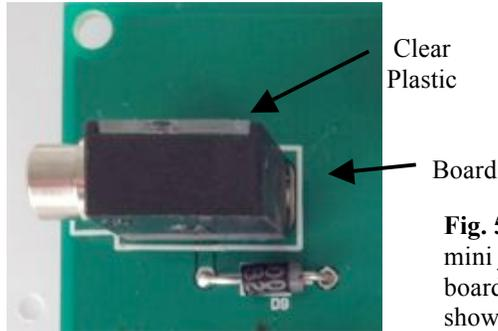

Fig. 5.1: Location of mini jack on PCB board. Place jack as shown.
- 5.1.1. Put the mini jack into the PCB as in Figure 5.1, with the end where you plug into pointing out, and solder it in place.